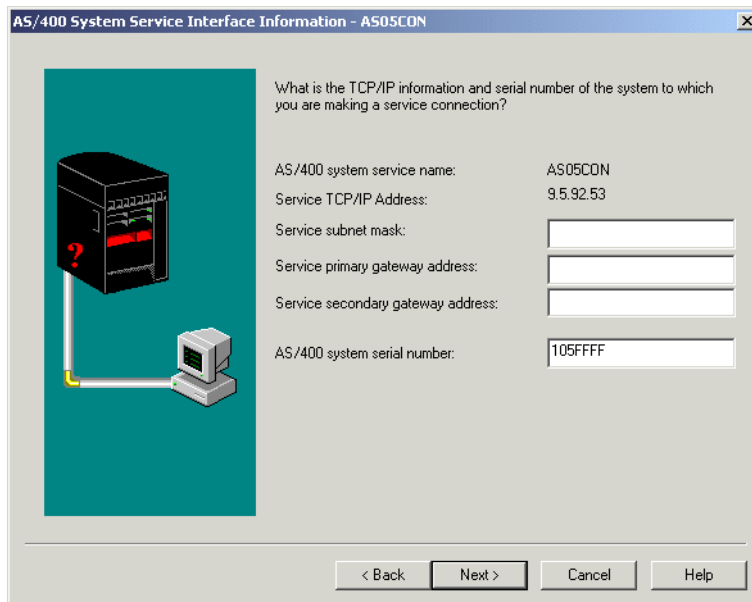

Figure 7-26 AS/400 System Service Interface Information display
7. If your PC finds the LAN console IP address, then the Service TCP/IP Address field will already be filled in for you (as shown in Figure 7-26). You only need to enter the AS/400 system serial number.